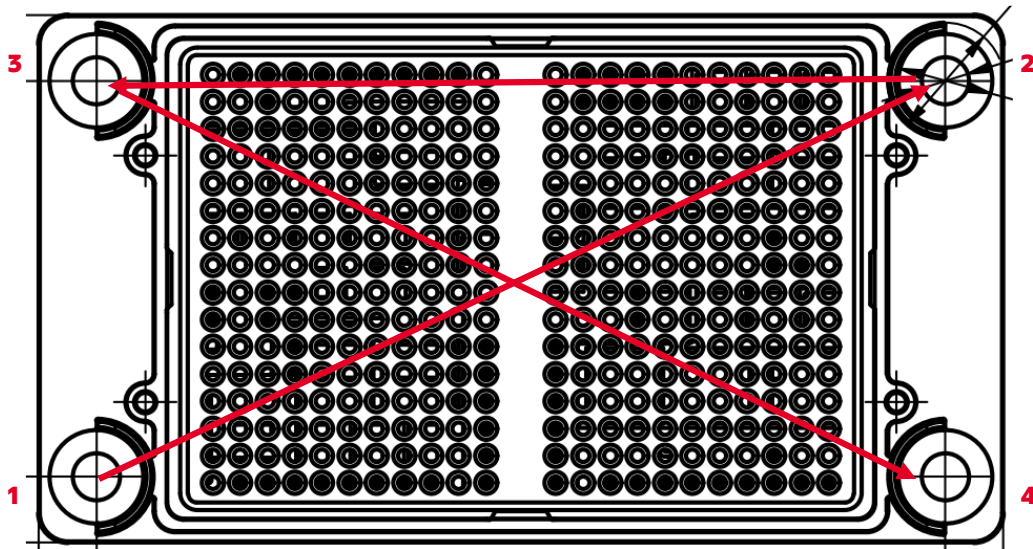

Figure 3-1 Sequence for tightening the FP-type power module to the heatsink; 图 3-1, FP 封装 IGBT 模块螺钉紧固顺序。
- Mount the FP-type IGBT module onto the heat sink. The PCB board must include an appropriate fixation at four corners of each FP-type IGBT module to the heat sink to prevent mechanical load to the module pins during transport and operation. During the installation of the IGBT module, lateral movement on the heat sink should be avoided. Secure the module to the heat sink by pre-tightening with a manual, electric, torque wrench at a torque value of 0.5 Nm, following the sequence indicated in Figure 3-1. Then, following the same steps, tighten the screws to the torque requirements specified in the datasheet Table 2. It is recommended to use an automatic torque-release wrench, setting the maximum torque value to that specified in the datasheet.
将 FP 封装 IGBT 模块安装在散热器上。PCB 板必须包含合适的通孔用于 FP 封装 IGBT 模块与散热器的安装固定。孔的大小取决于螺丝刀的尺寸、螺丝头的直径或垫圈的大小。安装 IGBT 模块过程中, 应避免其在散热器上发生横向移动。将模块固定到散热器上, 用手动或电动或气动的力矩扳手以 0.5Nm 的力矩值按照图 3-1 中标明的顺序进行预紧固, 然后按照相同的步骤, 将螺钉紧固至图 3-1 数据表中规定的扭矩要求。建议使用自动释放扭矩的扳手, 将最大扭矩值设置为图 2 数据表中规定的数值。
- Secure the module to the heat sink by pre-tightening with a manual, electric, torque wrench at a torque value of 0.5 Nm, following the sequence indicated in Figure 3-1. Then, following the same steps, tighten the screws to the torque requirements specified in the Table 2. It is recommended to use an automatic torque-release wrench, setting the maximum torque value to that specified in the datasheet.
将 FP 封装 IGBT 模块安装在散热器上。PCB 板必须包含合适的通孔用于 FP 封装 IGBT 模块与散热器的安装固定。孔的大小取决于螺丝刀的尺寸、螺丝头的直径或垫圈的大小。安装 IGBT 模块过程中，应避免其在散热器上发生横向移动。将模块固定到散热器上，用手动或电动或气动的力矩扳手以 0.5Nm 的力矩值按照图 3-1 中标明的顺序进行预紧固，然后按照相同的步骤，将螺钉紧固至图 2 数据表中规定的扭矩要求。建议使用自动释放扭矩的扳手，将最大扭矩值设置为图 2 数据表中规定的数值。